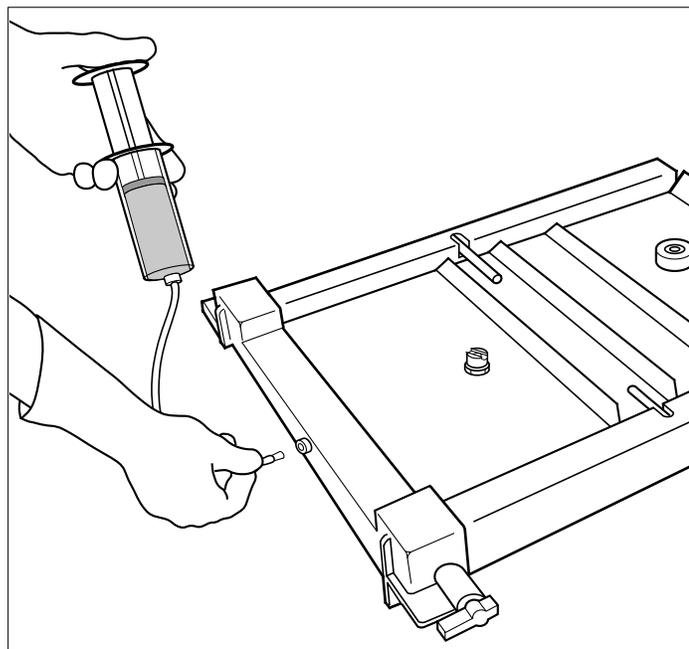
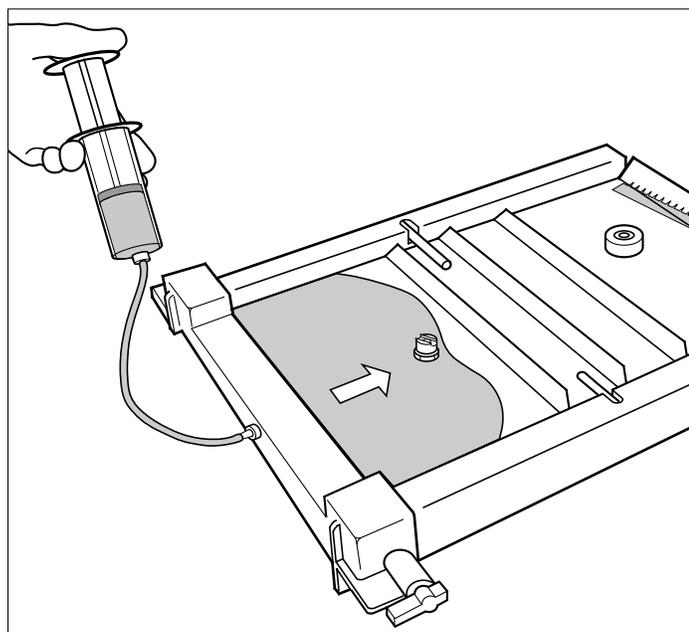

Fig. 4.6. Inserting syringe tubing into precision caster base.
Fig. 4.7. Injecting gel solution into glass plate sandwich.
9. When all air bubbles are removed from the tubing, place the luer taper into the injection port of the precision caster base (Figure 4.6). Tighten the luer taper fitting in place on the injection port of the precision caster base and begin to **slowly** inject the gel solution. Slow and even pressure on the syringe plunger will insure uniform gel casting with no bubbles (Figure 4.7).